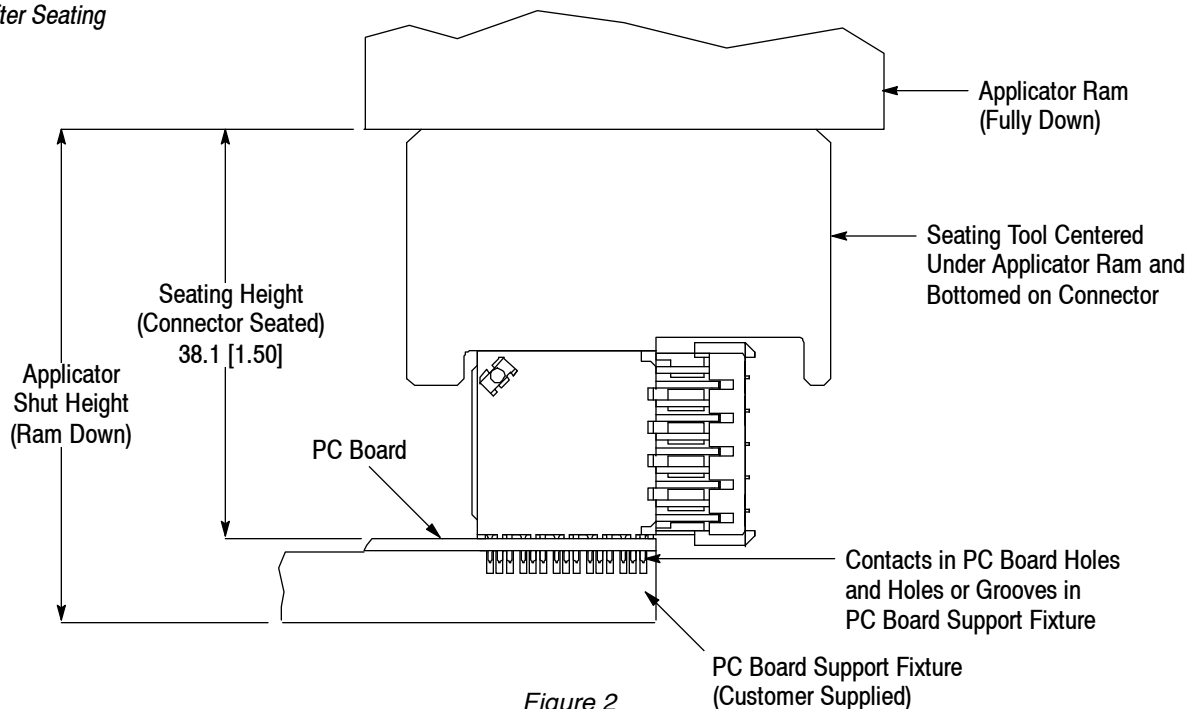

Figure 2
1. Set seating height to the dimension shown in Figure 2 (applicator *shut height* will equal the seating height PLUS the combined thicknesses of the pc board, and pc board support fixture).
2. Position the connector onto the pc board so that the contacts are properly aligned with the holes in the pc board and the holes or slots in the pc board support fixture. See Figure 2.
4. Position the seating tool onto the connector with the slanted surface oriented as shown in Figure 2.
- b. the connector is seated on the pc board with the seating height given in Figure 2.